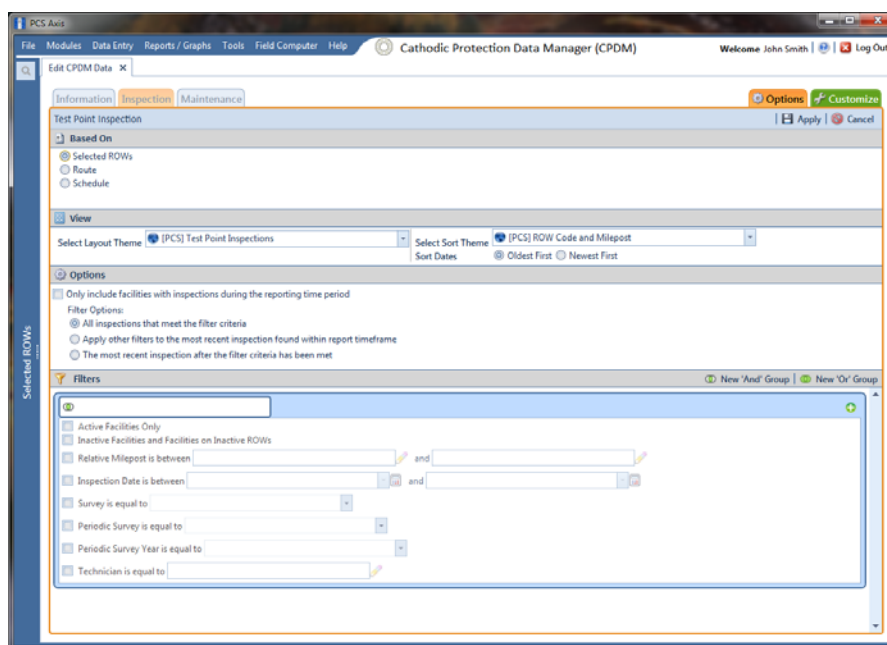

Figure 7-43. Options/Inspection Grid
- 3 Click the **Options** tab  to open the *Options* page (Figure 7-43).